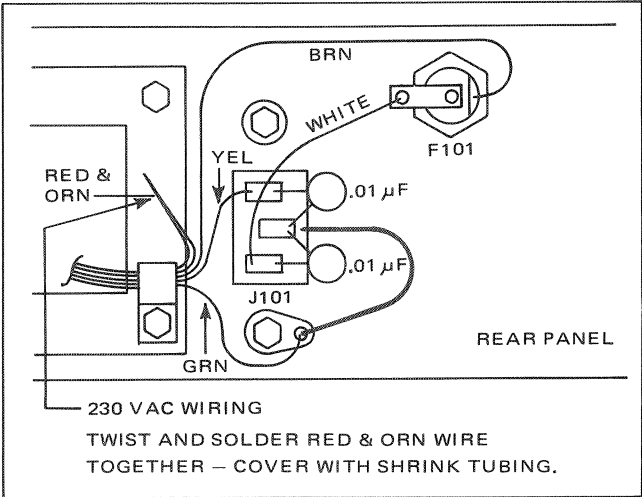

Figure 2.2 - 230V Operation
2.9 Power requirements for domestic units are 115V $\pm$ 10%, 50 to 400 Hz. Power consumption is 60 watts maximum. All 8000B series counters are adaptable for 230V operation. Figure 2.2 shows input wiring for 230V $\pm$ 10% line voltage.